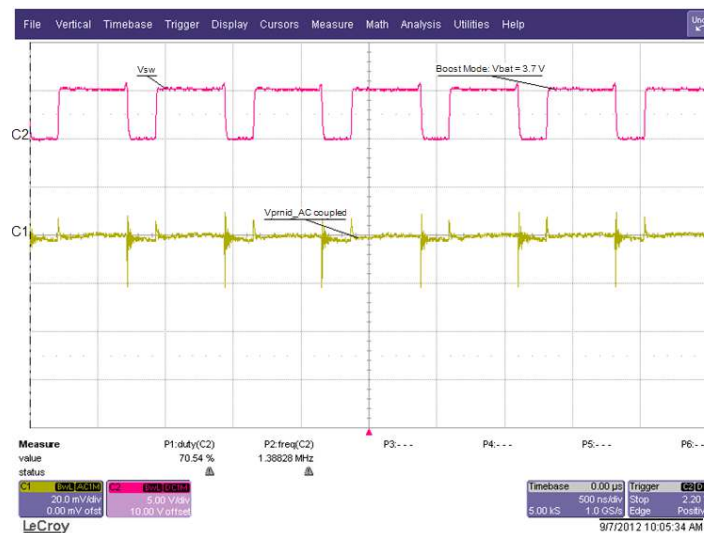

Figure 6. Boost Mode Ripple and Duty Cycle: $V_{BAT} = 3.7 V$
- (g) Verify scope measurement (see Figure 6):